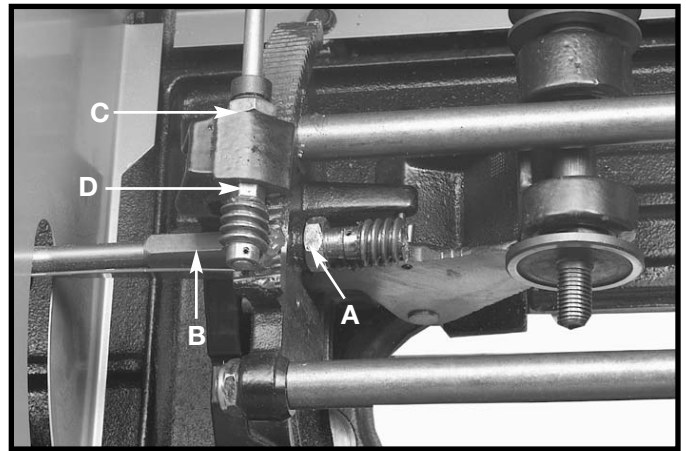

Fig. 65
2. **ADJUSTING BLADE RAISING MECHANISM** - Loosen locknut (A) Fig. 65, and turn eccentric sleeve (B) until all play is removed in mechanism and **tighten locknut (A).**
3. **ADJUSTING BLADE TILTING MECHANISM** - Loosen locknut (C) Fig. 65, and turn eccentric (D) until all play is removed in mechanism and **tighten locknut (C).**